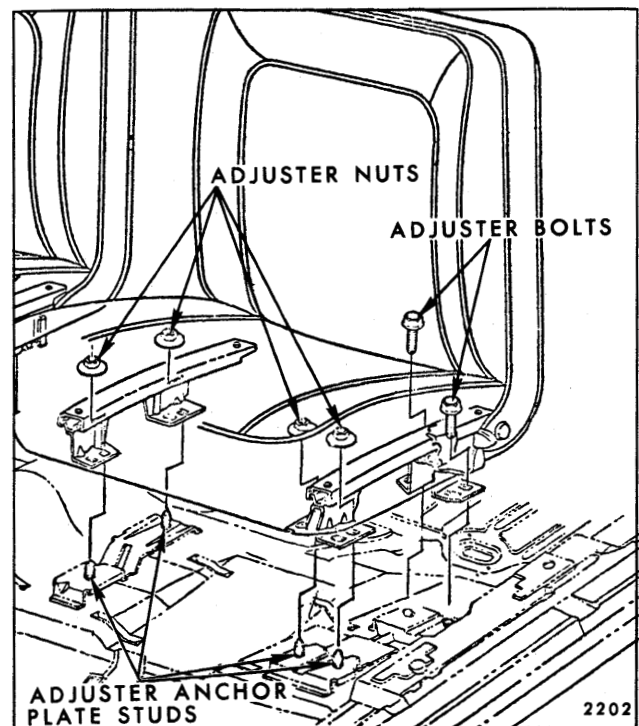

Fig. 10-30—Manually Operated Bucket Seat Floor Pan Attachment - "B & C" Styles
- b. On "B, C & E" body styles remove adjuster-to-floor pan front attaching bolts (Fig. 10-30). Operate seat to full forward position. Remove adjuster-to-floor pan rear attaching bolts and remove seat assembly from body.